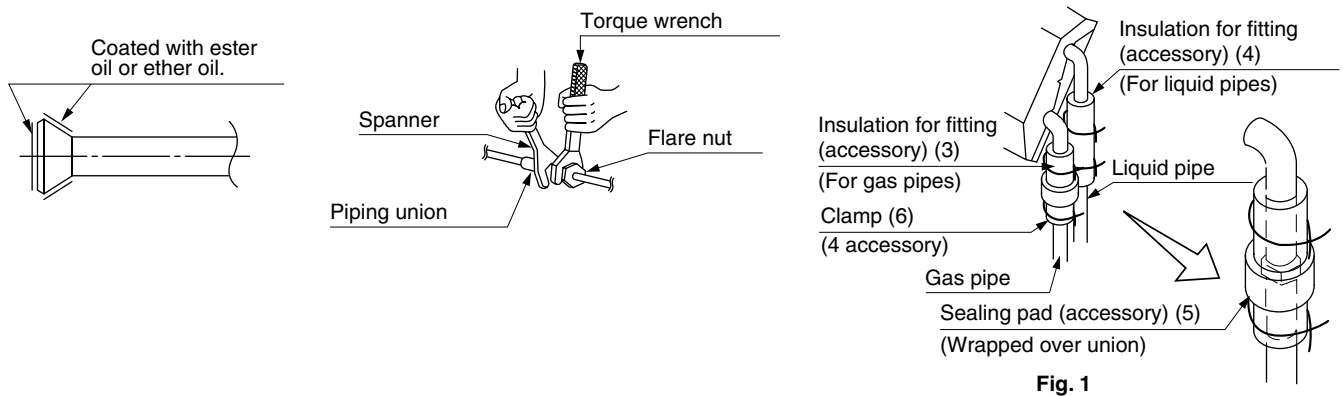

Fig. 1
- Make absolutely sure to execute heat insulation works on the pipe-connecting section after checking gas leakage by thoroughly studying the following figure and using the attached heat insulating materials for fitting (3) and (4). (Fasten both ends with the clamps (6) (attached).) **(Refer to Fig. 1)**
- Wrap the sealing pad (5) (attached) only around the insulation for the joints on the gas piping side.